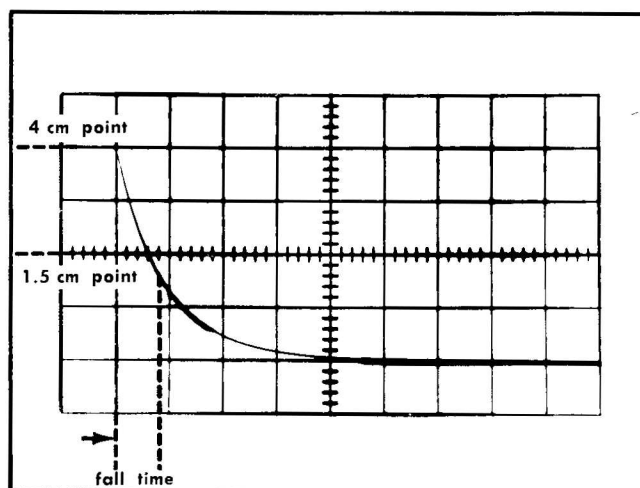

Fig. 6-5. Measuring AC coupled low-frequency response using an RC curve.
e. Position the display to the center of the graticule area and measure the time it takes the waveform to fall from 4 cm to 1.5 cm. See Fig. 6-5.